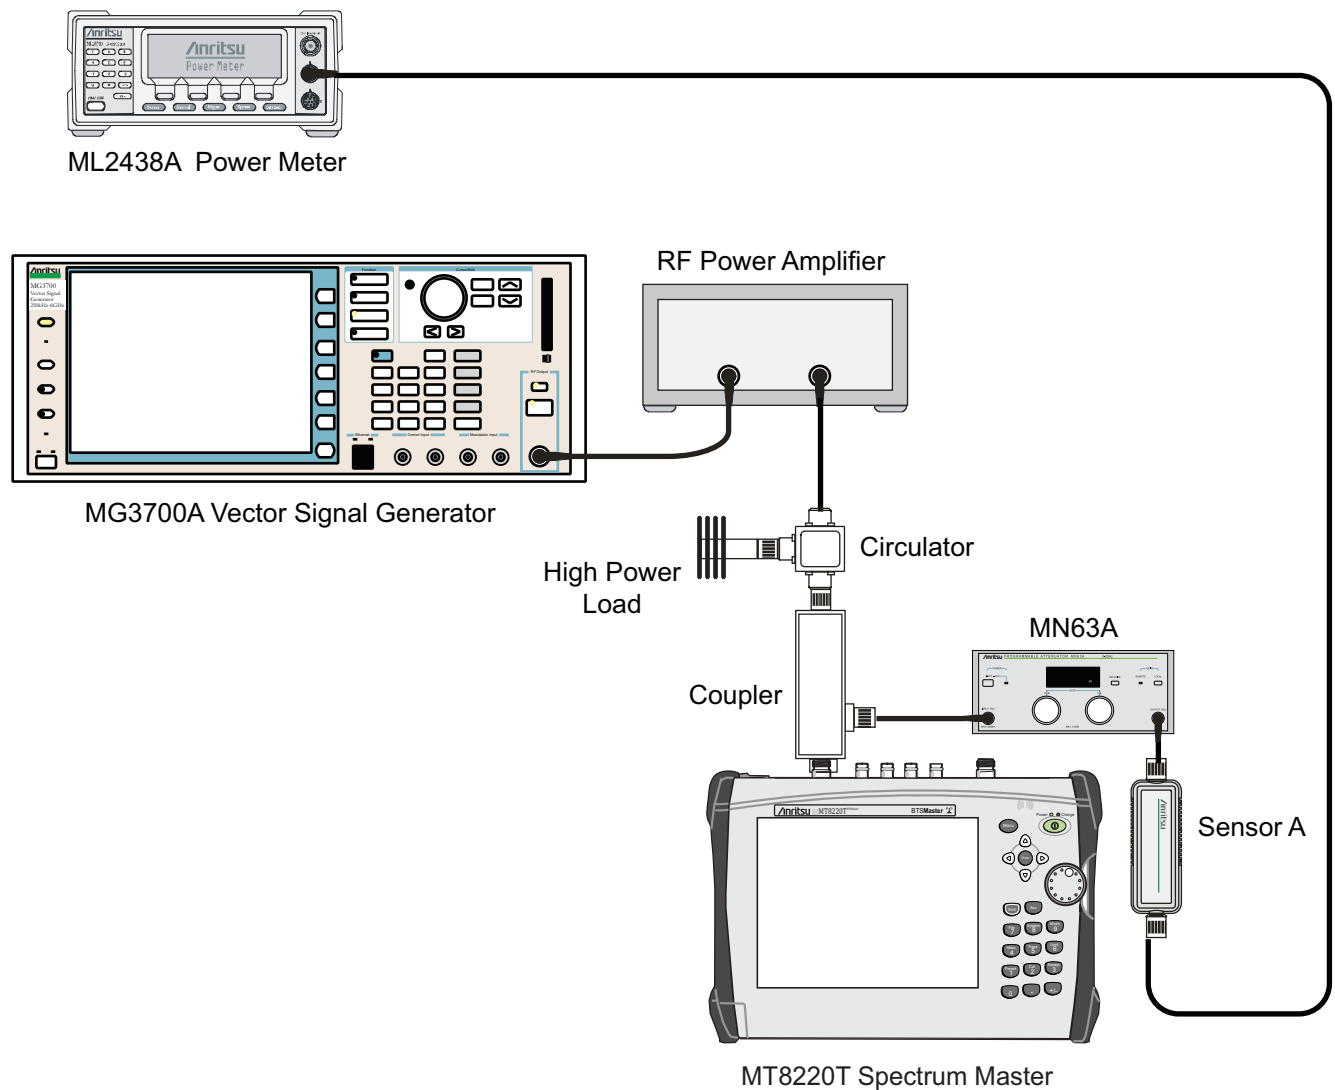

Figure 6-3. WCDMA/HSDPA Signal Analyzer, Test Setup for BTS Master
33. Disconnect the coupler from Sensor B and connect the coupler to the MT8220T, refer to Figure 6-3 on page 6-13.